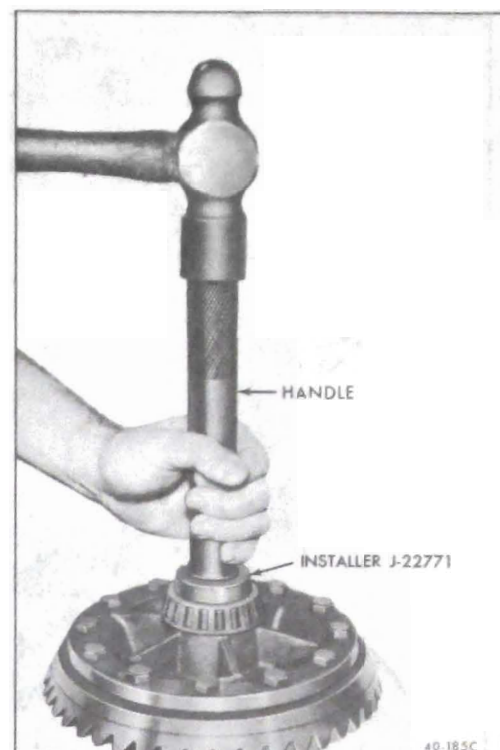

Figure 40-170 Installing Differential Side Bearings
2. If differential side bearings were removed, reinstall bearings using Installer J-22771 with Driver Handle J-8092. See Figure 40-170.